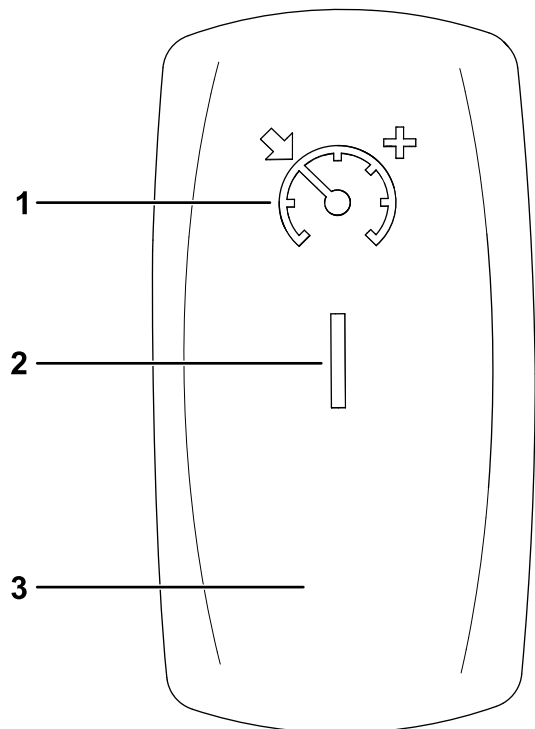

Figure 53
1. Move the cruise control switch to the ON position (Figure 53).
2. When you reach the desired drive speed, press the cruise control switch up to engage/set the cruise control (Figure 53).
To increase the cruise control speed, press the switch up until you reach the desired speed (Figure 53).
To disengage cruise control, press the switch to the down, OFF position (Figure 53).